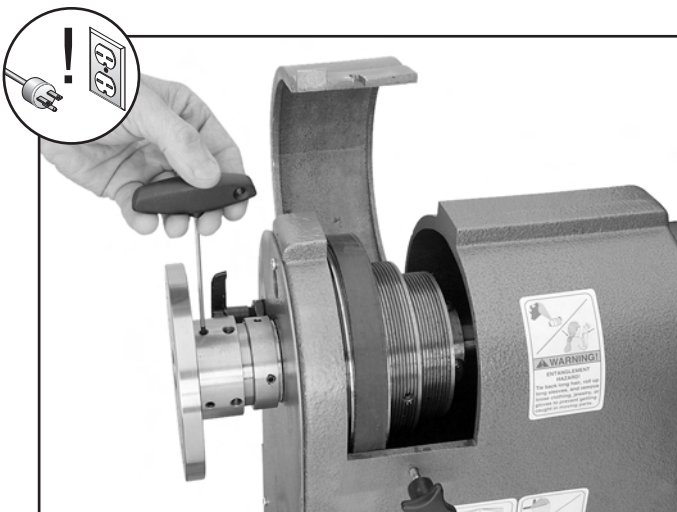

Figure 71. Securing handwheel.
29. Thread the handwheel onto the mounting hub, then tighten the outer set screws on the mounting hub (see **Figure 71**).